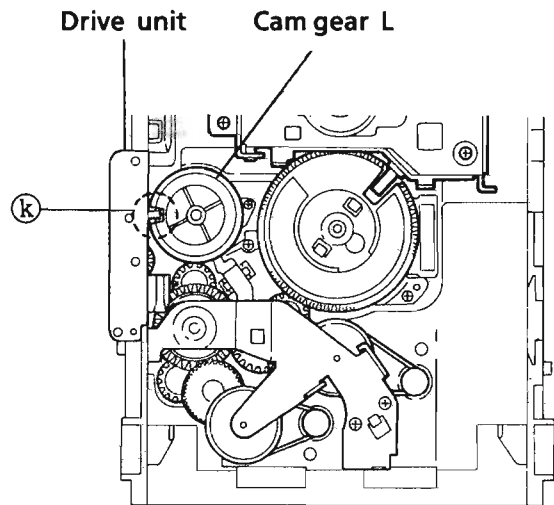

Fig. 34
2. Rotate the Cam gear L so that the drive unit's pawl ① is positioned as shown in Fig. 34.